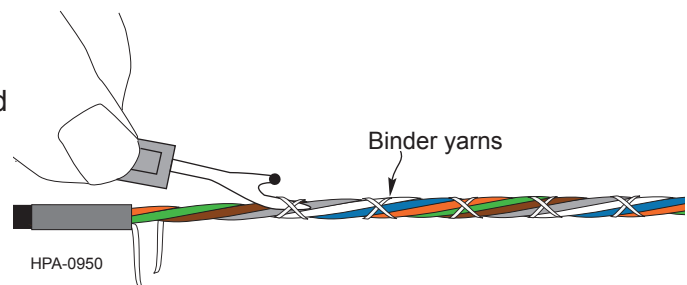

Figure 17
Step 10: Using the seam ripper, cut the binder yarns every few inches (Figure 17). Remove the yarns from around the buffer tubes and carefully trim the yarns flush at the tape wraps.